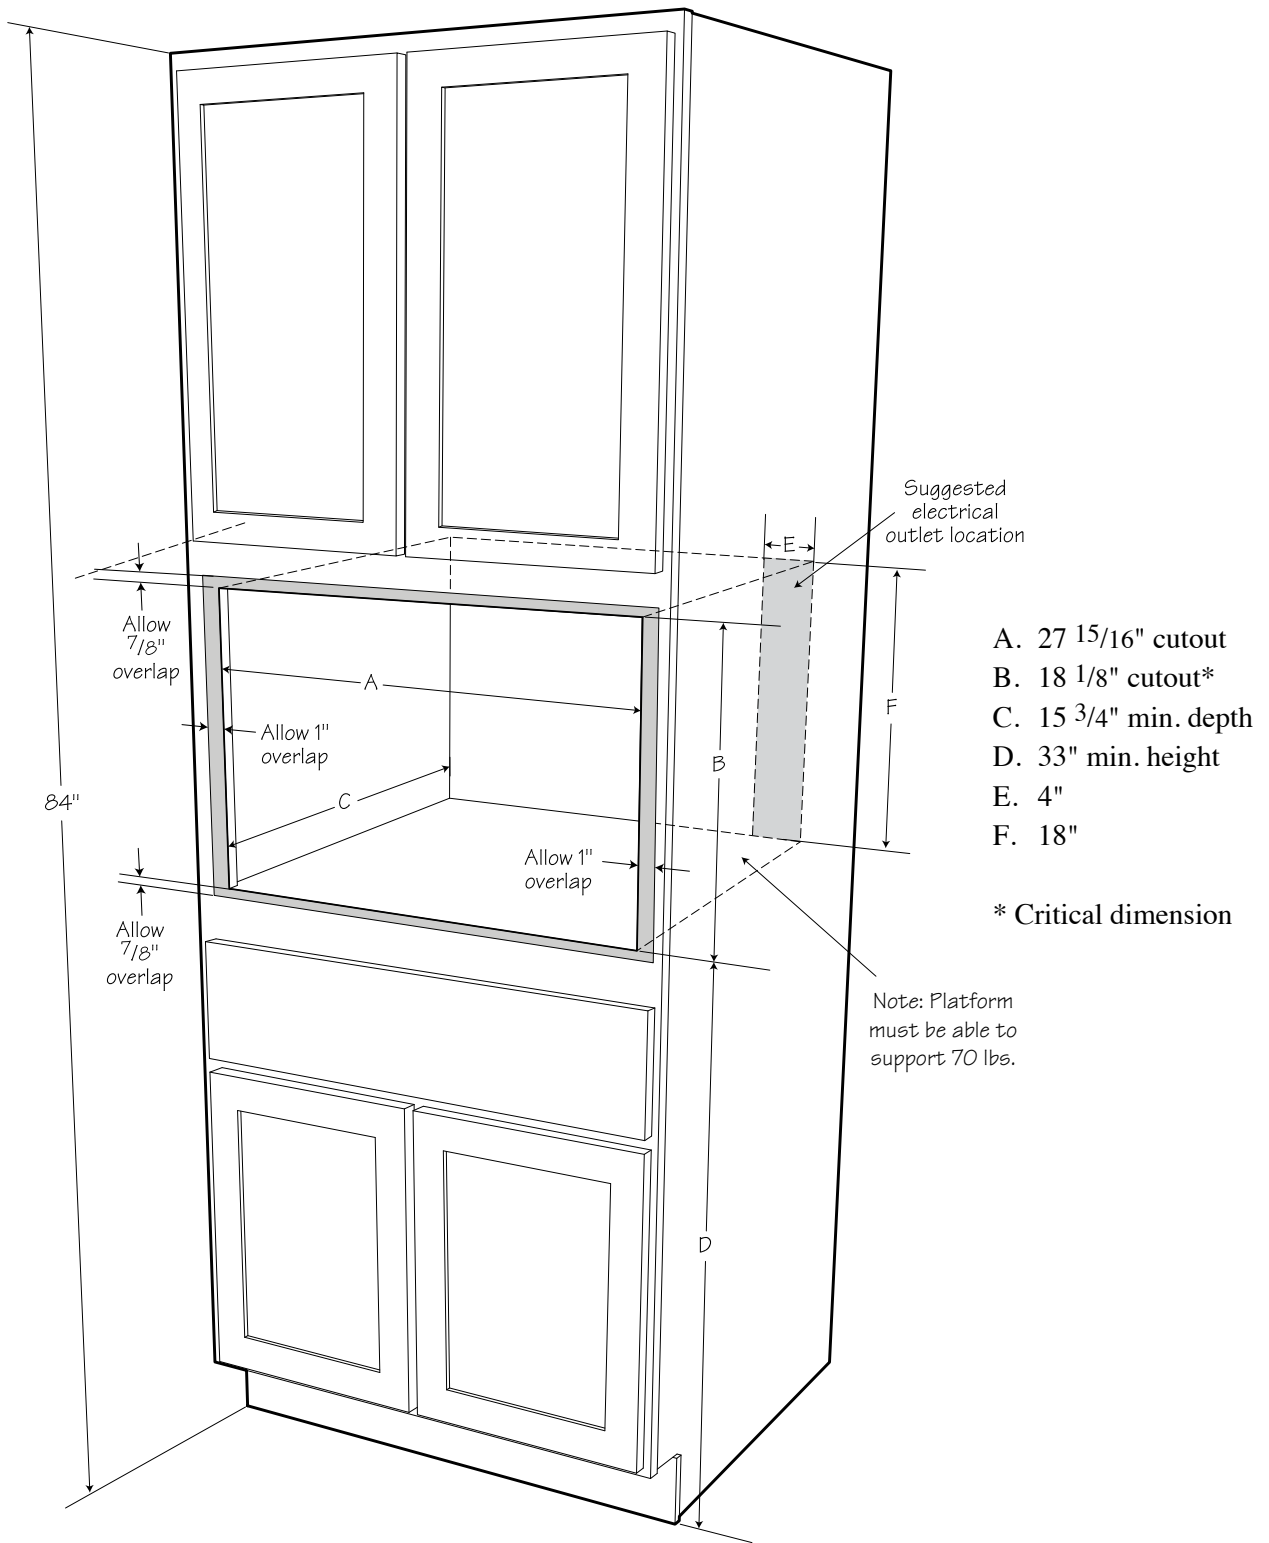

Figure 2
**For SAFETY CONSIDERATIONS do not install oven in any combustible cabinetry which is not in accord with the stated clearances and dimensions on page 4, Figure 2 or page 7, Figure 7.**